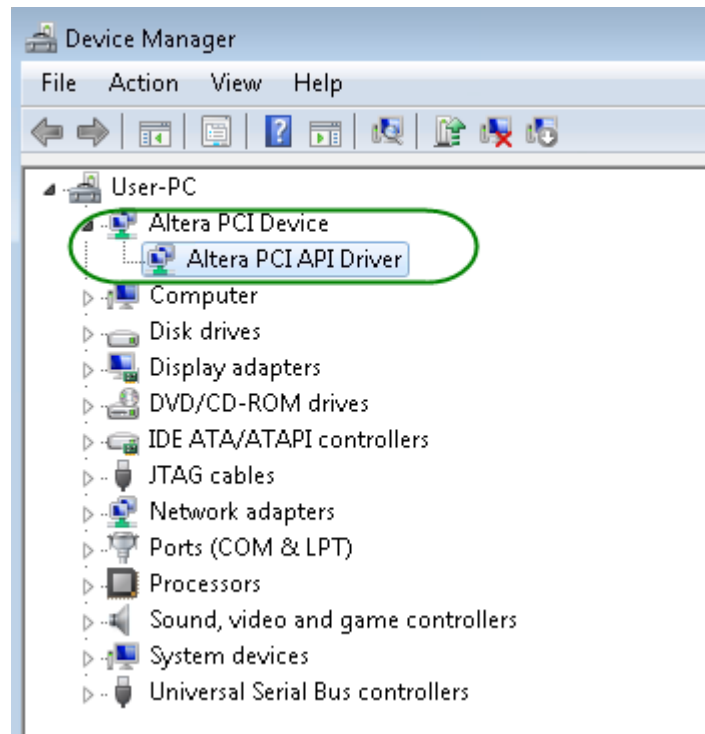

Figure 7-10 Screenshot for PCIe Driver
5. Make sure the Windows has detected the FPGA Board by checking the Windows Control panel as shown in **Figure 7-10**.